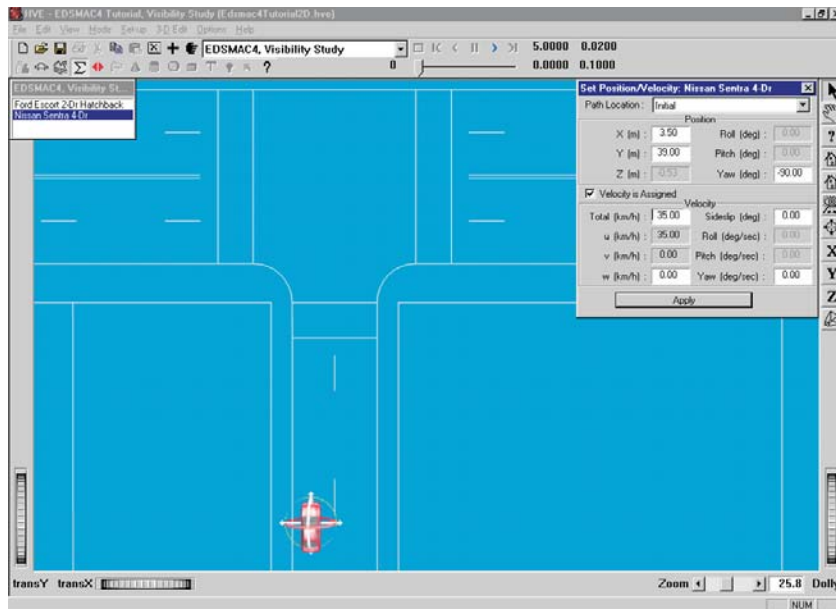

Figure 5-7 Positioning the Nissan Sentra using the Event Editor. The manipulators can be used to *drag and drop* the vehicle into position.
- Click on the vehicle's X-Y manipulator (see Figure 5-7), wait for it to turn bright yellow (indicating it has been selected), and drag it to its initial position,  $X=3.5$  m,  $Y=39$  m. In the Yaw field in the Position/Velocity dialog, replace the existing value with the heading angle,  $-90$  degrees.